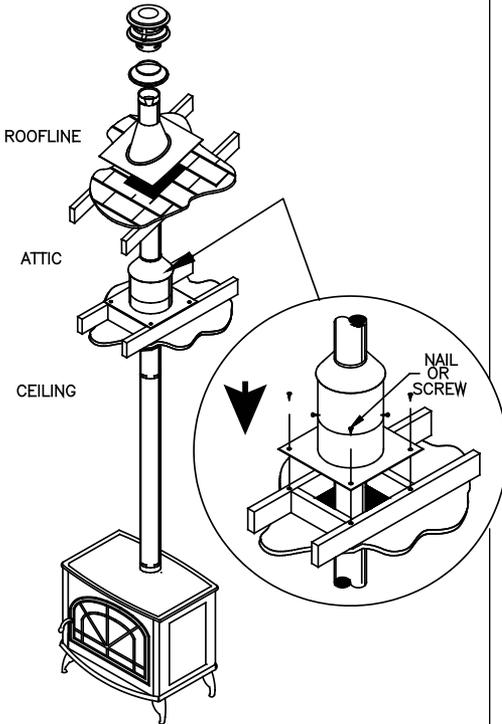

Figure 6
PelletVent Pro does not require additional sealant to be used at pipe joints, but in certain circumstances sealant may be used if desired. Seal the inner liner overlap at the male end of pipe for best results (*Figure 6*)
G. When the PelletVent Pro enters the attic, install an Attic Insulation Shield around the vent (*Figure 6*). This will prevent insulation and debris from collecting near the vent pipe. Use (4) nails or wood screws to secure the base of the Attic Insulation Shield to the framed opening. Adjust the height of the Attic Insulation Shield by sliding the top cylindrical shield over the one from the base. Ensure that the top of the Shield is above the level of building insulation. Secure the Shield in place with at least two (2) sheet metal screws through the side of the cylindrical shield. Attach collar around pipe, then lower to the top of the Attic Insulation shield.